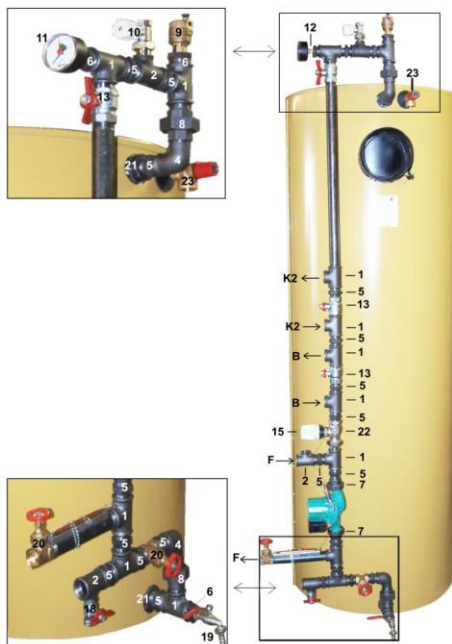

Figure 11
Air valve that lets air flow under fire grate (19) (Fig. 1) is controlled with the help of switch valve (6) (Fig. 1) which is located on the boiler's top of the flue side. Switch valve has: a) handle (bolt for fixing the primary valve position) and b) valve opening support (Fig. 11).